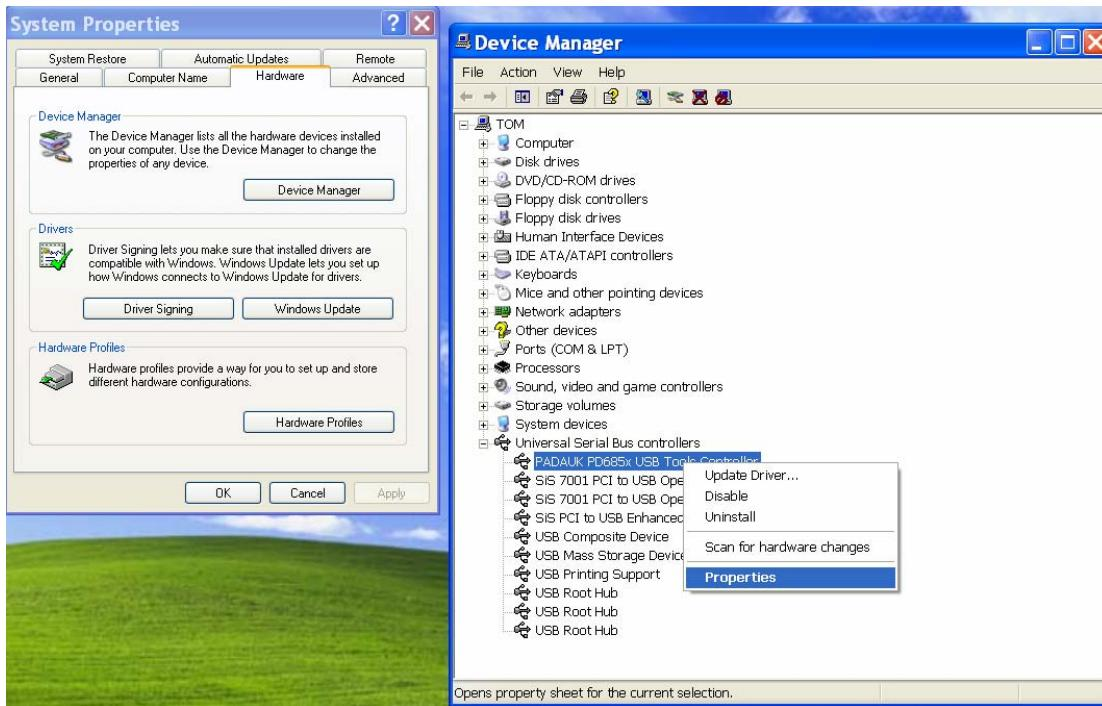

Fig.3-8 : Select Properties of PADAUK PD685X USB Tools Controller
Step 3 : Click the folder of 【Universal Serial Bus Controllers】 , then use mouse right button to select 【Properties】 of PADAUK PD685X USB Tools Controller ; The window will be shown as Fig.3-8 。